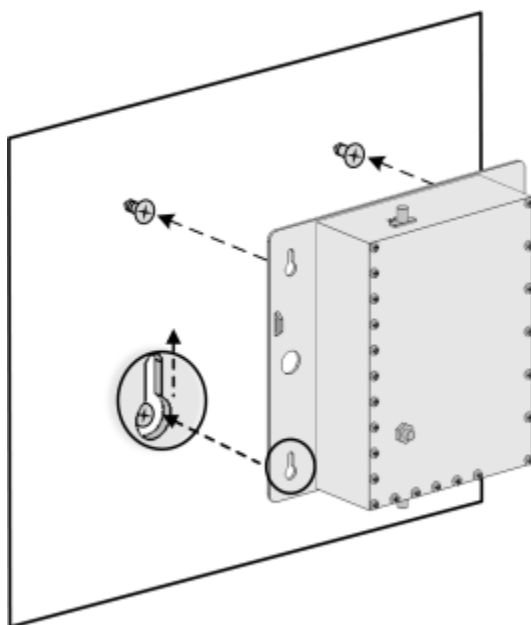

Figure 4-38. Mounting Cavity Filter on Wall
3. Hang the Cavity Filter on the anchors/screws and pull down to lock in narrow end of key hole. Refer to Figure 4-38.